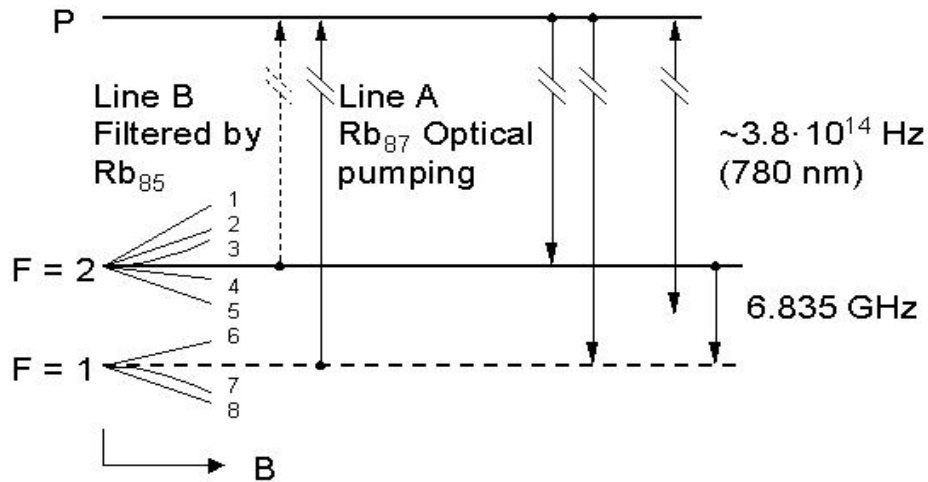

Figure 1: Energy levels and transitions in Rb87 atoms during LNRCLK operation.
In order to detect the clock transition between these two levels, the atoms need to be manipulated in such a way that most of them occur in only one level. This is done by optical pumping via a higher lying state (P). Figure 1 visualizes the atomic energy levels and transitions involved in the optical pumping process.